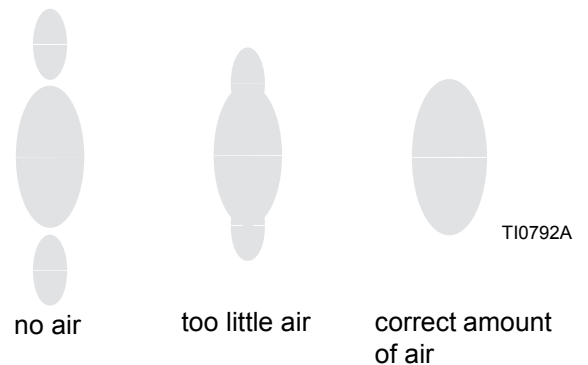

FIG. 14
5. Set the atomizing air pressure at about 5 psi (3.5 kPa, 0.35 bar) when triggered. Check the spray pattern, then slowly increase the air pressure until the tails are completely atomized and pulled into the spray pattern. See FIG. 14. Seven to 10 psi (4.9 to 7.0 kPa, 0.49 to 0.7 bar) air pressure is typically enough to atomize the tails, especially for low viscosity materials. Setting the air pressure too high will cause material to build up on the air cap and decrease transfer efficiency. Do not exceed 100 psi (0.7 MPa, 7 bar) air pressure to the gun.